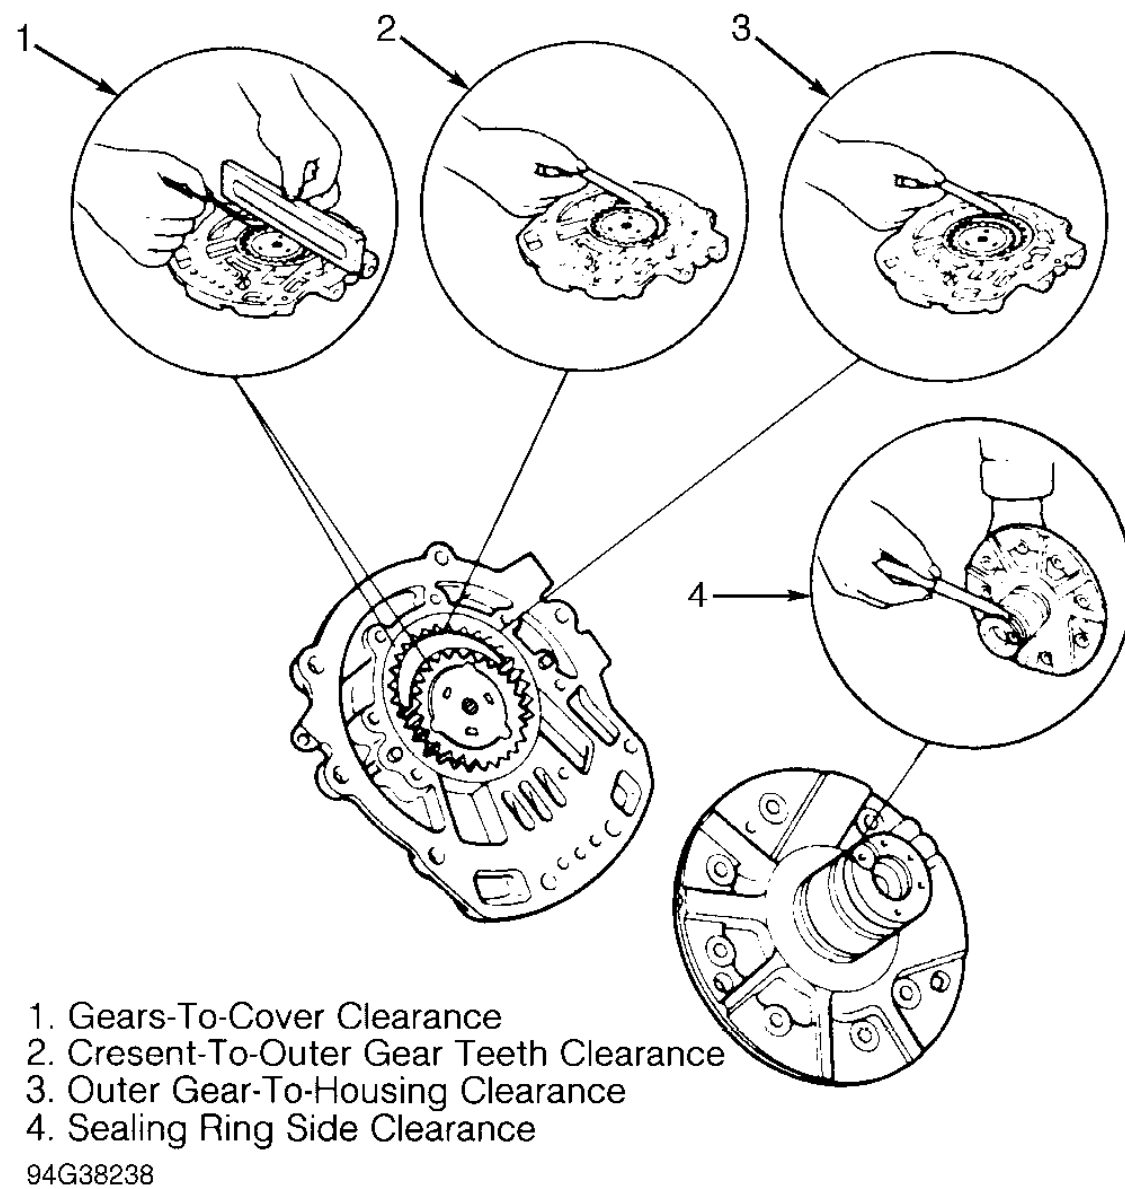

Fig. 20: Measuring Oil Pump Clearances
1. Check the condition of the gear teeth and surfaces. Check seal rings for signs of cracks or breaks and replace as needed. Check condition of pump housing sleeve and inner gear bushing. See Fig. 20 . See the OIL PUMP SPECIFICATIONS . Check sleeve outer diameter and bushing inner diameter.